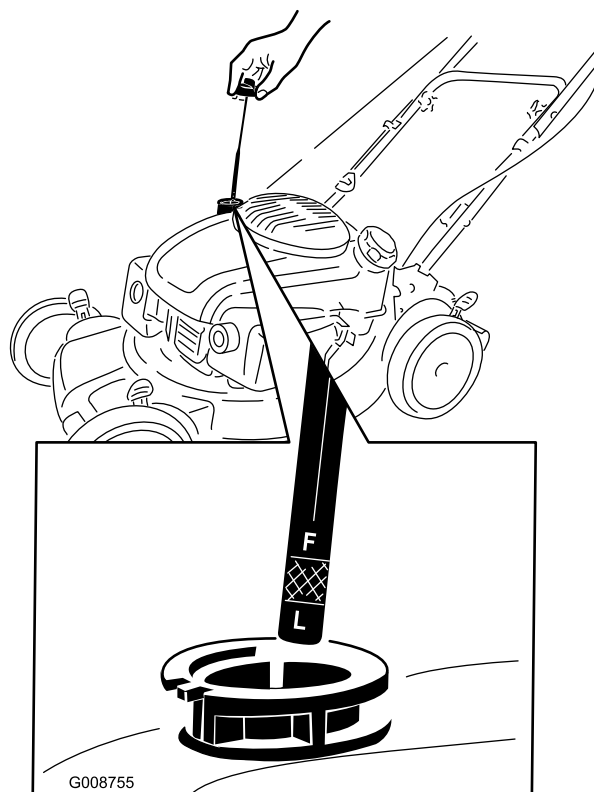

Figure 5
1. Remove the dipstick (Figure 5).
2. **Slowly** pour oil into the oil fill tube until the oil level reaches the Full line on the dipstick (Figure 5). **Do not overfill.** (Max. fill: 22 oz. (0.65 l), type: 10W-30 or SAE 30 detergent oil with an API service classification of SJ or higher.)
**Note:** Each time you check the oil level, remove the dipstick and wipe it clean, insert it into the oil filler neck (but **do not** screw it in), then remove it again and check the level (Figure 5).